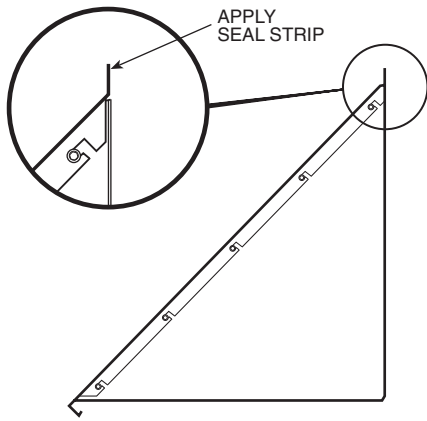

Fig. 9 — Side and Top Panel Configuration
5. Attach the seal strip to the top flange of each top panel that will be used along the top edge of the unit as shown in Fig. 9. Install the seal strip to the flange facing the unit. This seal strip will protect the insulation in the panels from moisture.